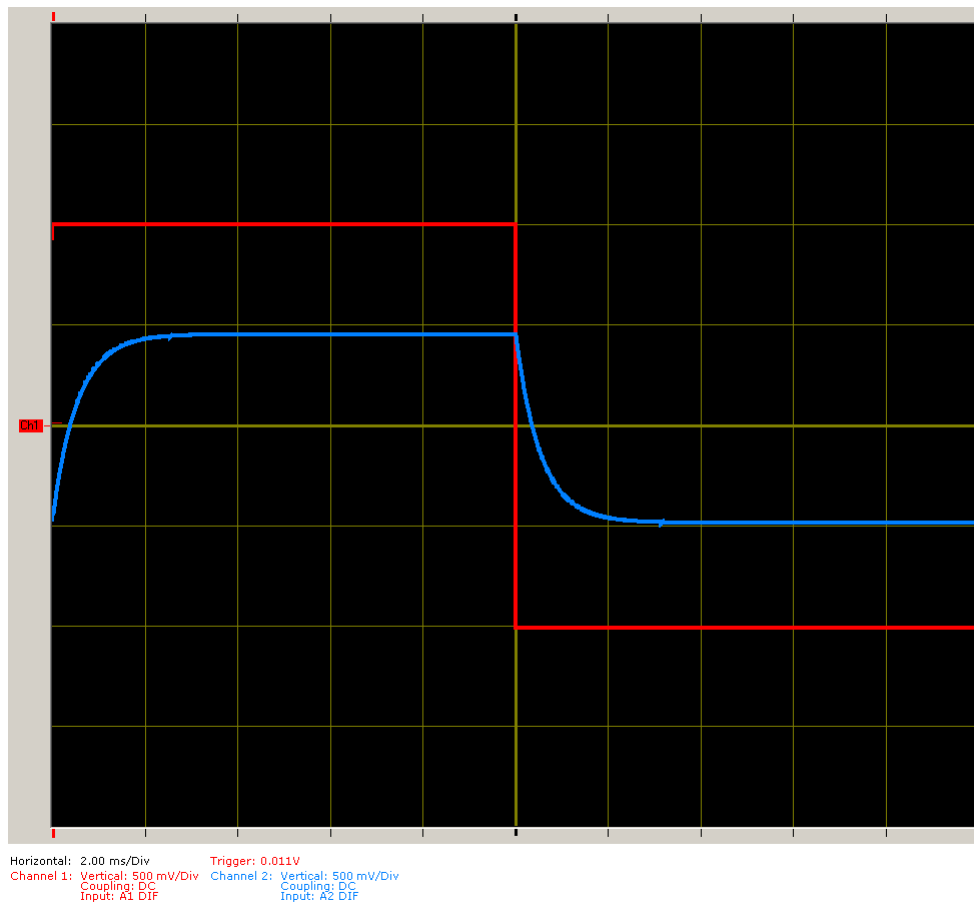

Figure 8. Closed loop response of the first order system with all gains approximately equal to one.
8) Remove the load resistor from the isolation amplifier, and connect the feedback loop. Measure the output of the system as the voltage across the capacitor. Do not change any of the variable resistances yet. You should get a response like that in Figure 8. Your output should be about half the amplitude of the open loop system (Figure